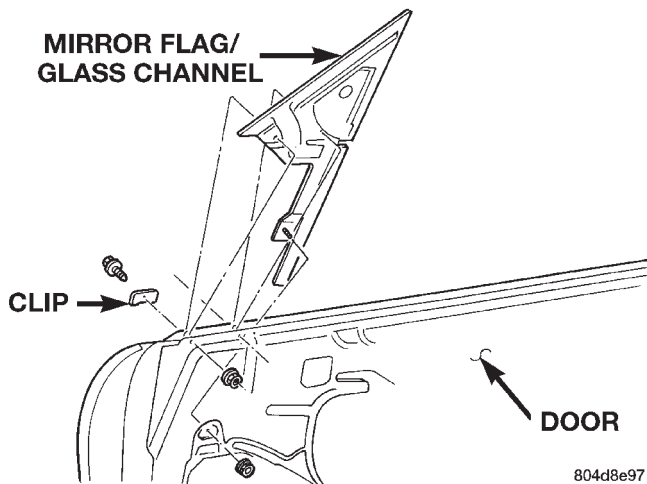

Fig. 28 Side View Mirror Flag/Door Glass Channel
- (1) Remove side view mirror.
- (2) Remove door trim panel.
- (3) Remove door glass.
- (4) Remove door outer belt weatherstrip.
- (5) Remove screws holding mirror flag/door glass channel to outer door panel (Fig. 28).
- (6) Remove nut holding top of mirror flag/door glass channel to inner door panel.
- (7) Using a suitable allen-wrench, hold jack screw stationary while removing nut holding bottom of mirror flag/door glass channel to inner door panel.
- (8) Separate from vehicle and remove through opening in top of door.